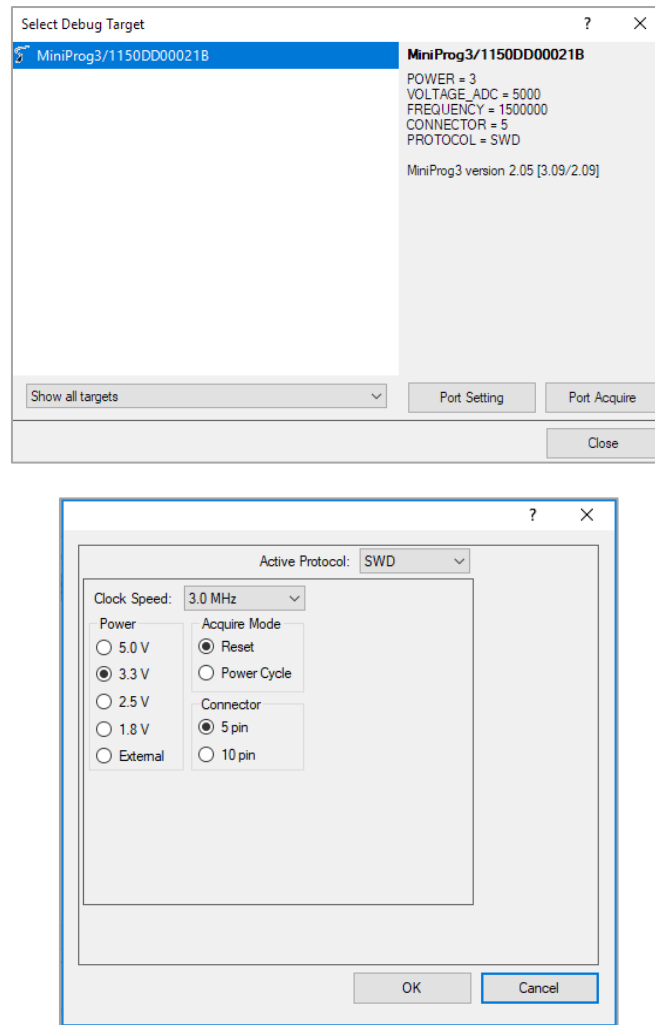

Figure 22: MiniProg3 configuration for PSoC5 microcontroller
2. PSoC Creator® software should be configured as settings shown in Figure 22;